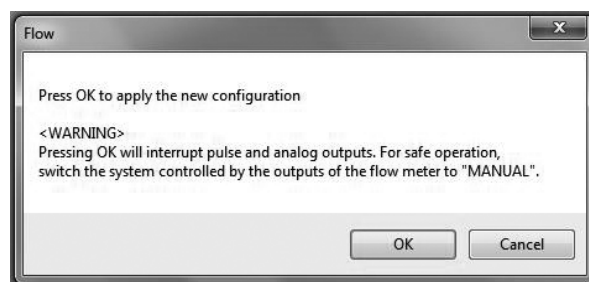

Fig. 3-31
- (4) If all settings are completed, click "OK" button. Then, the message box (Fig. 3-31) will be displayed. Click "OK" button here to change the settings to the inputted values, and to reflect the changed setting values in the flowmeter's output. If the flowmeter's output is used to control valves or other such parts as safety protocol, change the control loop to manual control so that the control loop cannot be influenced by the flowmeter's output.